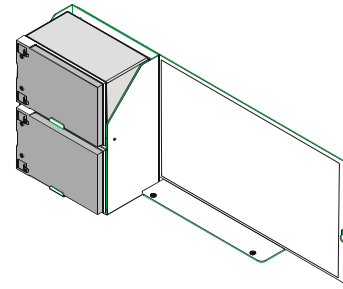

Figure A.9 Mounting the CHS-BH1
**To mount the CHS-BH1 onto the DAA chassis:** Place battery holder against DAA chassis, resting on support as shown in Figure A.9. Align chassis standoff's with holes. Fasten with the two 8/32” hex nuts supplied.